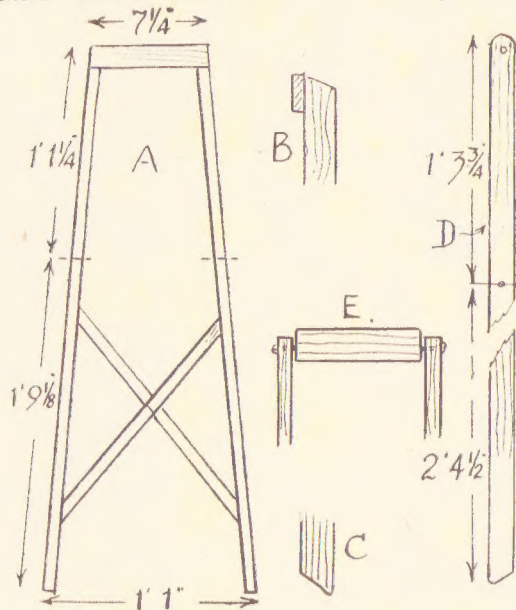

Fig. 1 - Shape and dimension of legs, with details
The folding leg parts are shown grouped together in Fig. 1. The inner legs are made up first, and are drawn at (A). Cut these from red deal if possible, to the length given. Cut the top cross-bar to length and fix with screws. It will be seen that this pair of legs splay outwards, so space them apart at the bottom to outside measurement of 1ft. 1in. and keep them so fixed until the diagonal braces are fitted, then free them. A spare strip of wood, nailed across them at the bottom will fix them temporarily. This should be done before the top bar is screwed across.